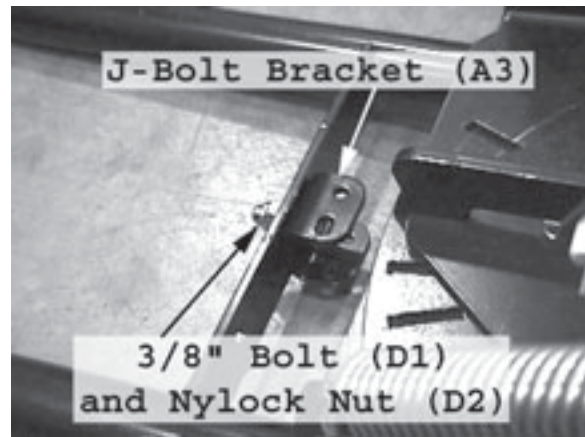

Figure4 Attach J-bolt Bracket
11. Attach the J-Bolt Bracket to the plow crossmember using a 3/8" dia-1" long Bolt, and 3/8" Nylock Nut as shown in Figure 4. The bracket should be installed on the plow blade side of the crossmember. Attach the 3/8" bolt such that the head of the bolt is inside the bracket and the threaded end points toward the ATV.